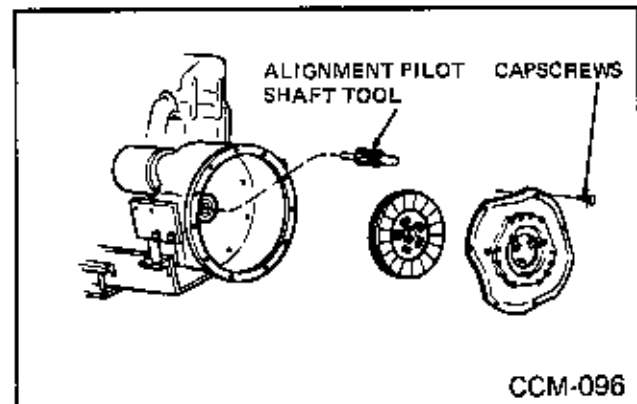

Fig. 91
17. Remove six (6) capscrews holding clutch plate and remove clutch plate and disc. (Fig. 91)